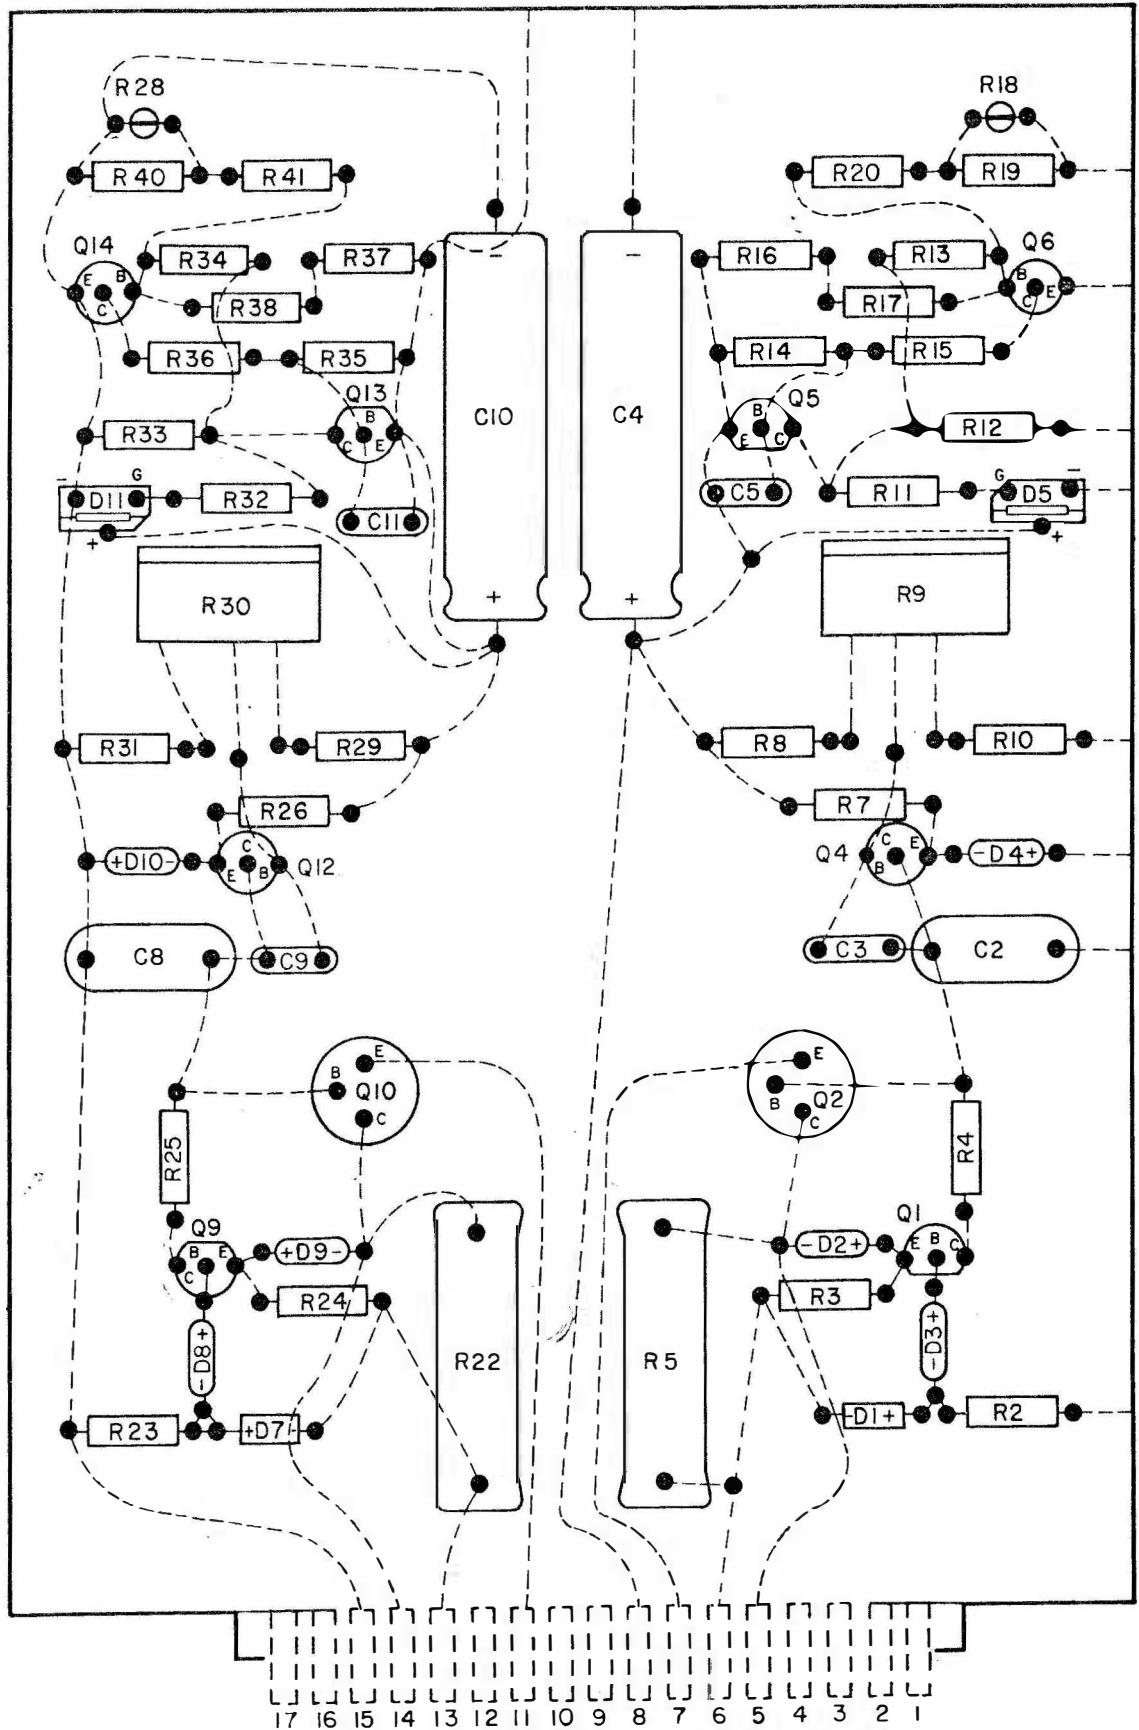

Figure 5-1. Power Supply Card Component Location
b. Components mounted on the printed circuit cards or the chassis terminal boards can be removed and replaced using authorized desoldering and soldering procedures. For location of parts, see figures 5-1 through 5-8.
5-5. POWER SUPPLY ADJUSTMENT (Figures 5-1 and 4-15.) Adjustment of the ± 24 -volt regulated output voltage is required whenever any component on the power supply card is replaced or whenever any chassis-mounted component of the power supply circuits is replaced. To perform this adjustment, a dc voltmeter is required. To adjust ± 24 volts regulated power supply proceed as follows: